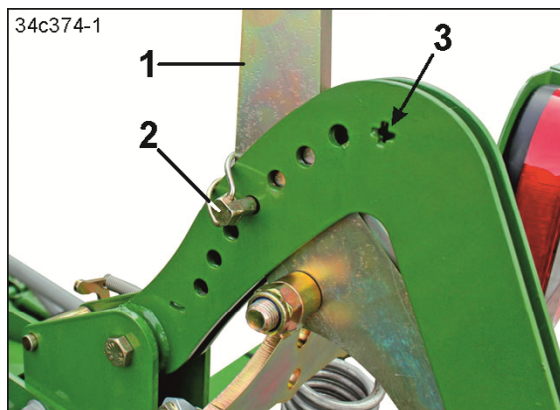

Fig. 143
4. Secure the position of the lever (Fig. 143/1) with a safety pin for the tube (Fig. 143/2).
The roller contact pressure is highest when the safety pin for the tube (Fig. 143/2) is inserted in the hole beside the plus symbol (Fig. 143/3).